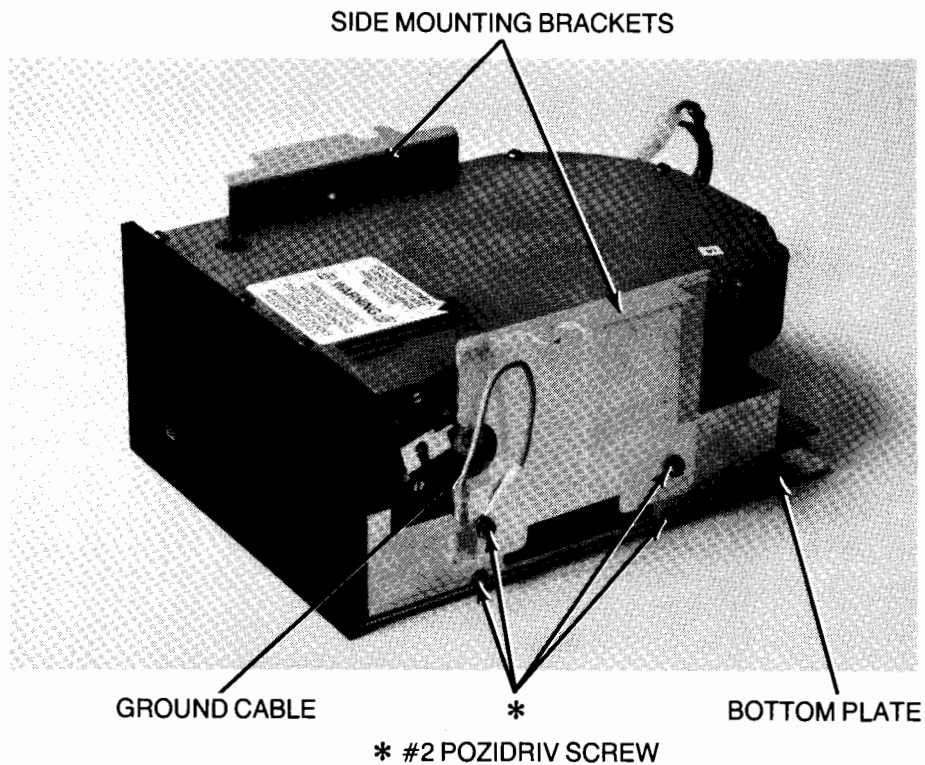

Figure 1
10. Attach side plates, ground cable, and power cable as shown in Figures 1 and 2. Attach bottom plate with four #2 Pozidriv screws.